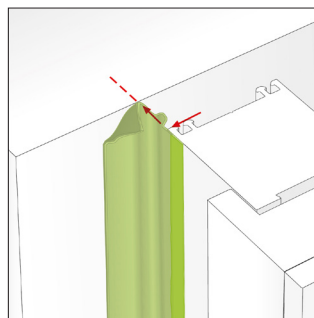

Fig. 1
- Bonding in 'E' format (Fig. 1):- peel off the protective split liner of the self-adhesive on the side of the membrane facing the frame, allowing some slack in the membrane retained within the joint.
- Using 'E' format, the window should be installed first. Remove the narrow part of the split liner from the self-adhesive backing, on the reverse (non-printed) face of the membrane and locate the membrane against the internal face of the window with a minimum of 10 mm contact all around (See Fig. 1). It is possible to apply in a continuous length by folding the membrane back on itself at the corners or alternatively, apply four separate strips allowing a 50 mm overlap at each corner and at the start/end sections. Consolidate the bond using a seam roller.